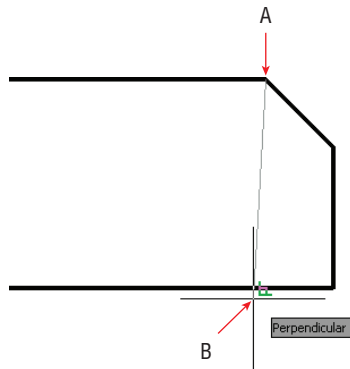

FIGURE 3.13 Drawing a line using running object snaps
- Toggle off Polar Tracking and Dynamic Input modes on the status bar. Click the Line tool on the Draw panel. Move the cursor close to point A in Figure 3.13, and wait for the green endpoint marker to appear. When it does, click to snap the first point of your line precisely to this point.